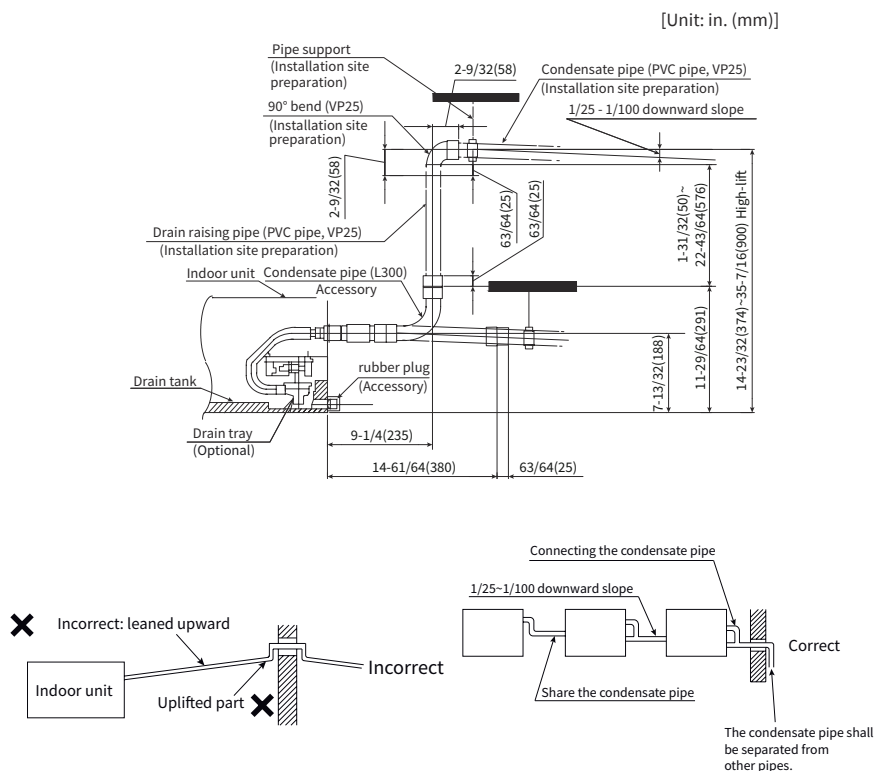

Figure 6.1 Condensate Pipe
- The condensate pipe connection position is shown in figure 6.1.